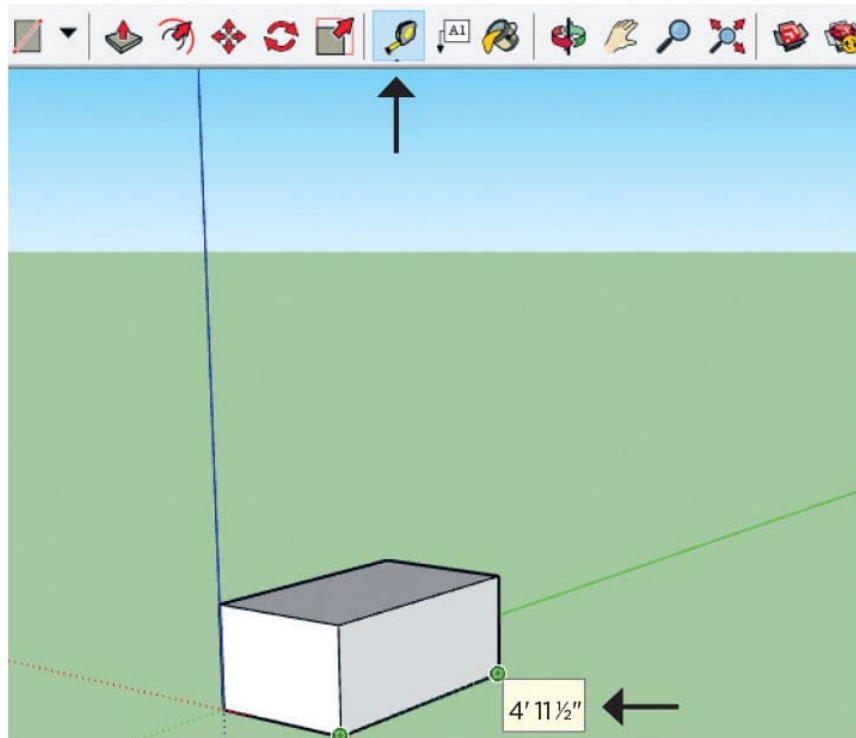

FIG. 3: Use the **Tape Measure** tool to find the dimensions of the shape. Add a label with the **Text** tool.
3. You can use the **Tape Measure** tool to measure the dimensions of the 3D shape (fig. 3). The **Text** tool to the right of the Tape Measure tool will let you label your measurements by simply selecting it and then clicking on the desired edge to be measured.